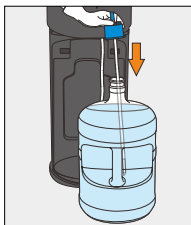

Figure 42
19. Remove replacement bottle adaptor from packaging and install onto new, full bottle (Figure 42)